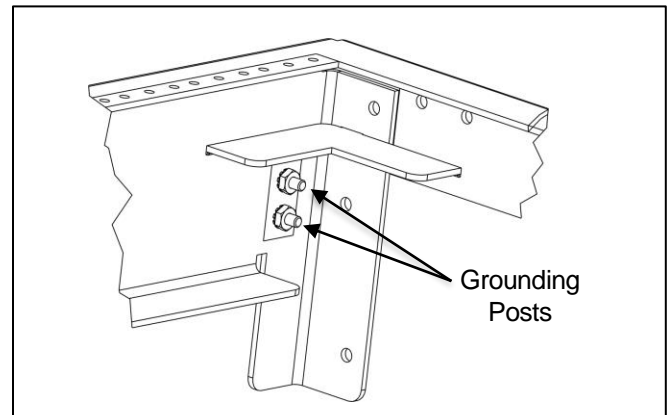

Figure 4. Grounding posts
- ① Locate the pair of threaded posts for grounding on the WMB-7U (Figure 4). The grounding posts are 10-32 x 3/8" on 5/8" centers.
- ② Install a dual ground lug with holes on 5/8" centers (customer provided) to the studs and secure with two #10-32 hex nuts provided.
- ③ Connect a ground wire of appropriate gauge to the ground lug and attach the other end of the wire to a bonded ground point, per local procedures for network equipment.